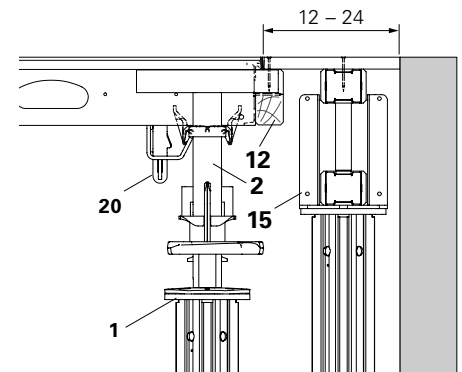

Fig. A5.38
1. Place Panel SDP (3) over the Main Beam SLT (2) and secure with Panel Wedge Clip (20).
2. Screw Filler Timber SPH (12) or timber on the panel.
3. Position additional prop with cross-head (15) and formwork girder.
4. Install formlining (16) and secure with nails. (Fig. A5.38)